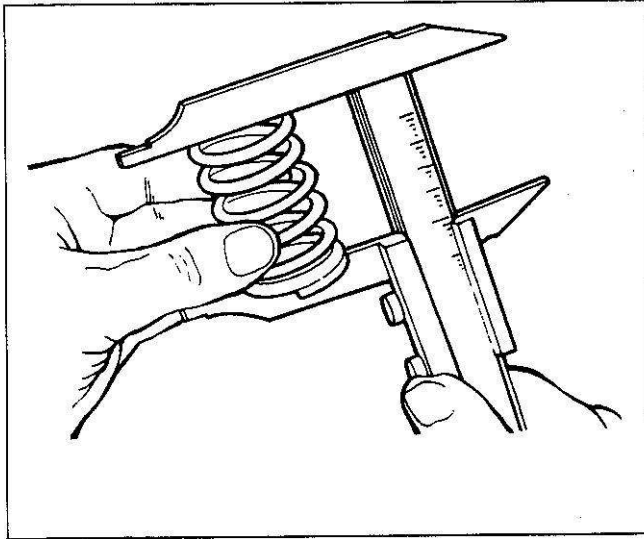

Figure 34. Measuring Valve Spring Length
- Check length with vernier calipers (figure 34).